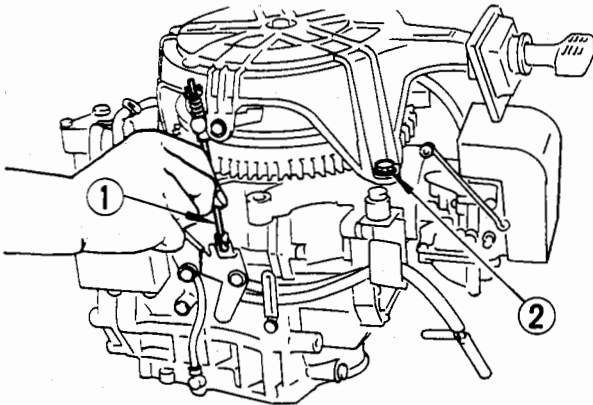

Fig. 24 Removing the recoil starter
- 2) Remove the recoil starter bolts (H830-1, H625-2). Remove the recoil starter assembly while pulling up. (Fig. 24)